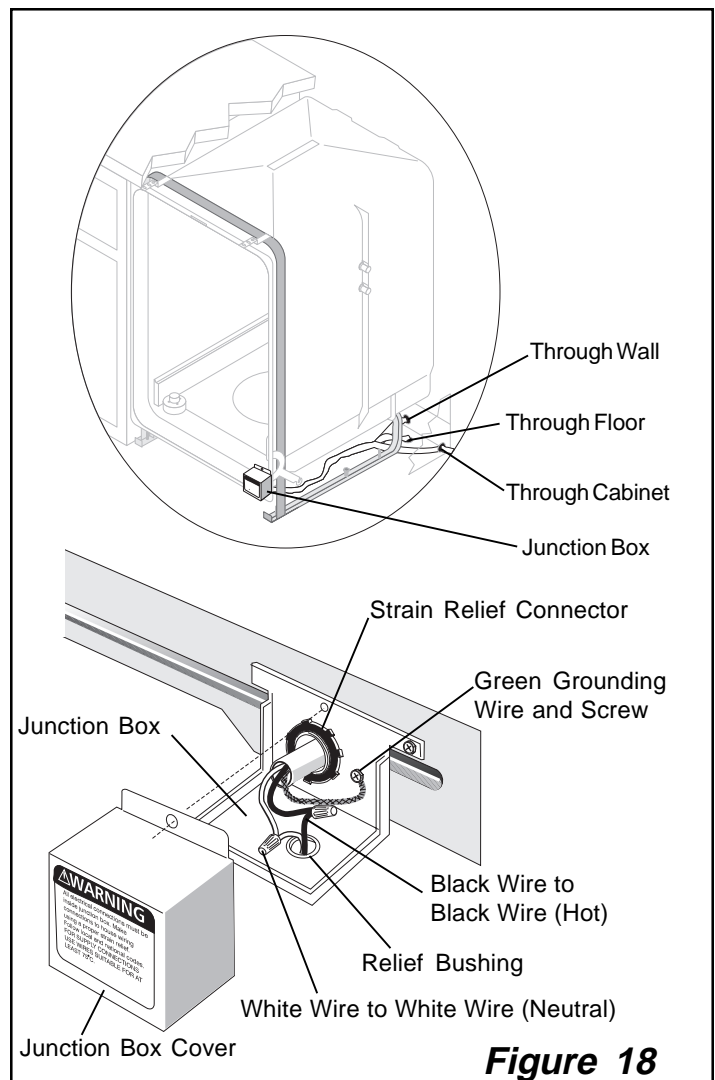

Figure 18
1. Remove the junction box cover (see Figure 18).